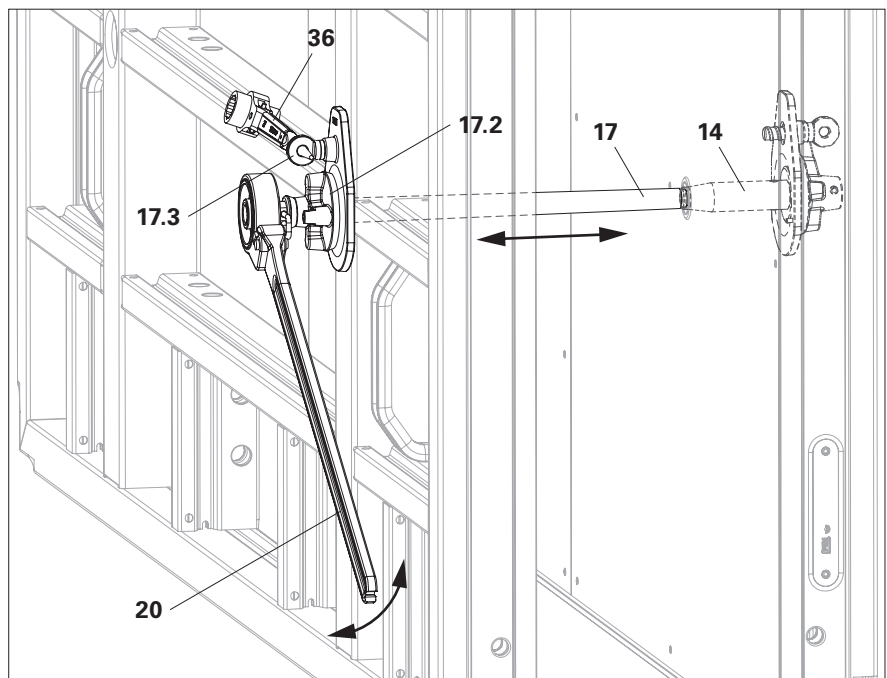
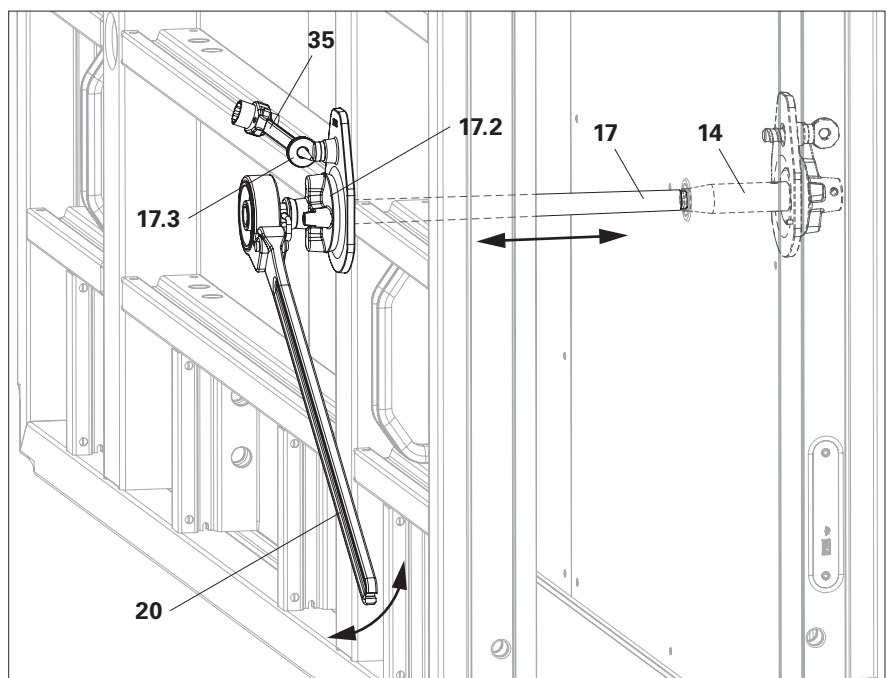

Fig. A6.11
Fig. A6.12
1. Undo the eyebolt (17.3) with Ratchet MX18 (36) or Scaff. Build. Ratchet SW19/22 (35).
2. Unscrew Tie MX18 (17) with Tie Rod Spanner MX18 (20).
- (Fig. A6.11/Fig. A6.12)